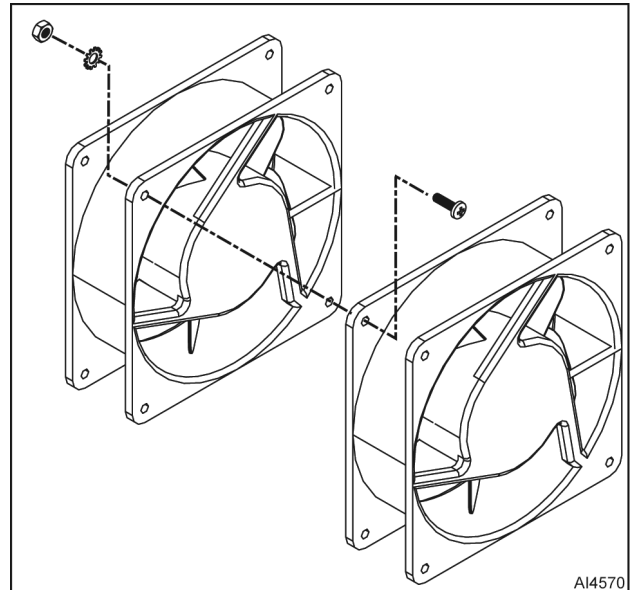

Fig. 18
6. Remove fasteners and separate axial fans (Fig. 18).